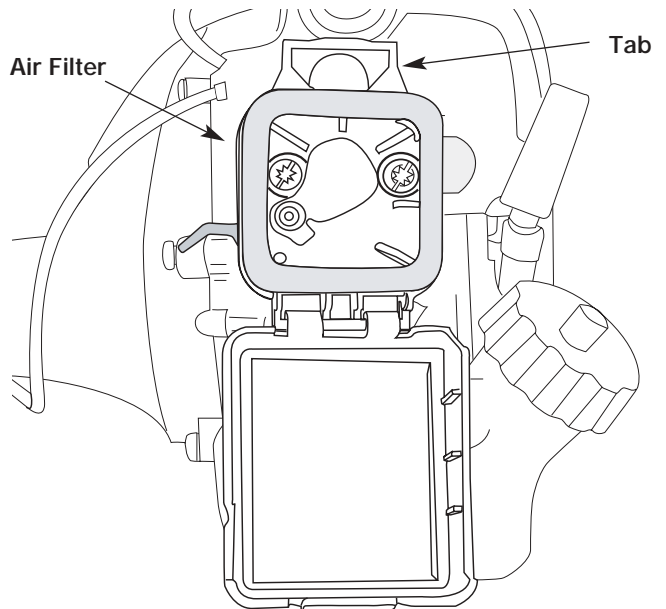

Fig. 25
2. Remove the air filter (Fig. 25).